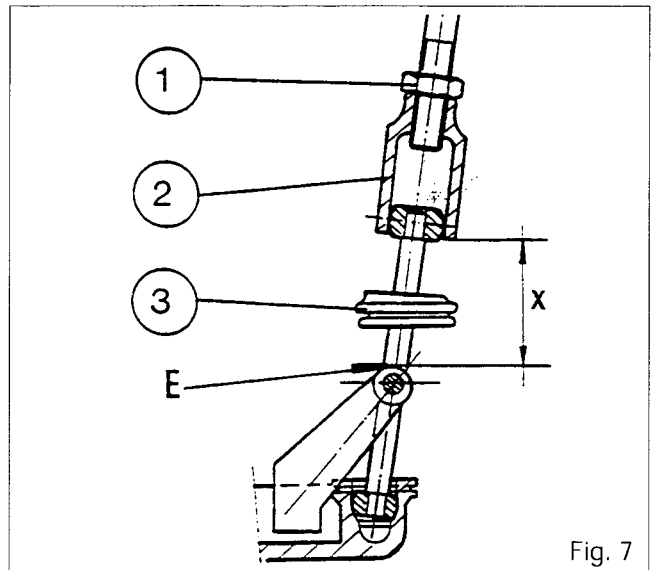

Fig. 7
41. Unlock nut (1). Adjust the sleeve (2) so as to obtain a dimension X between the base of the sleeve and shoulder «E» on the lever (see Fig. 7).
42. Tighten the nut to a torque of 50 Nm and position the dust cover (3).